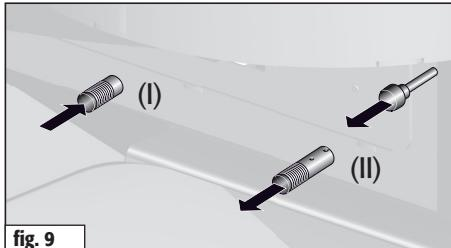

fig. 9
Close primary air	Push in primary air slider (I) as far as it will go. (fig. 9)
Adjust secondary air.	Set secondary air slider (II) between position 2 and 3. (fig. 9)